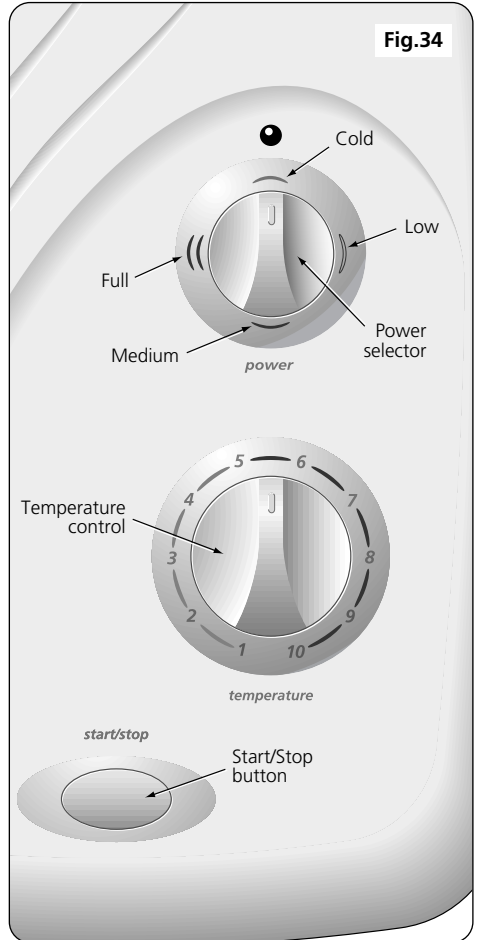

Fig.35
**Power on indicator (fig.35)**